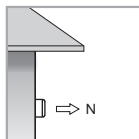

FIG.3
- For a better performance, you should place the twilight switch northerly (See FIG.3).